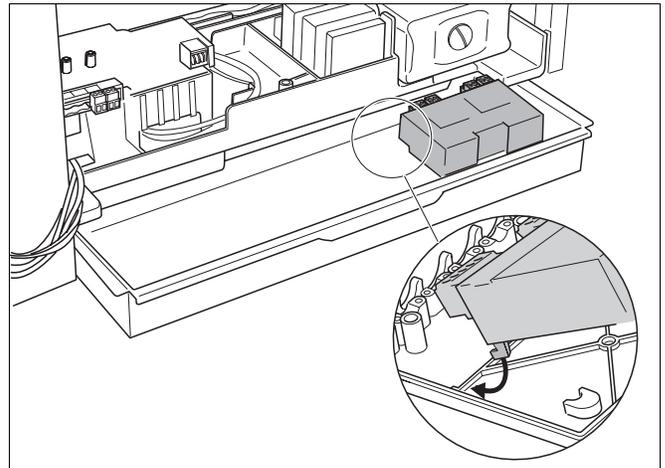

Fig. 36 Clicking the function module into position
- Click the function module(s) into position in the wall bracket (fig. 36).